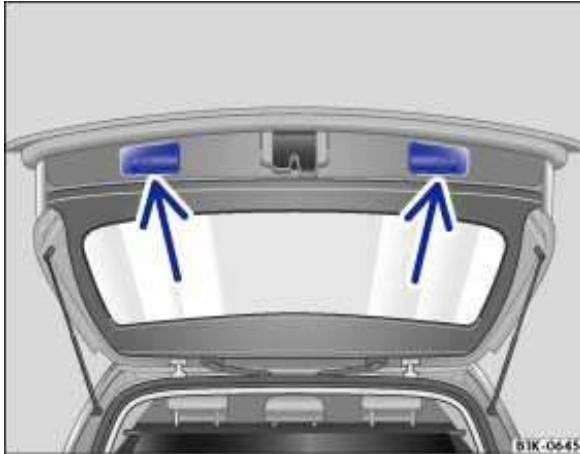

Fig. 32 Opened rear hatch: Recessed grips for closing.
- Grasp one of the recessed grips in the rear hatch trim ⇒ fig. 32 (arrows).